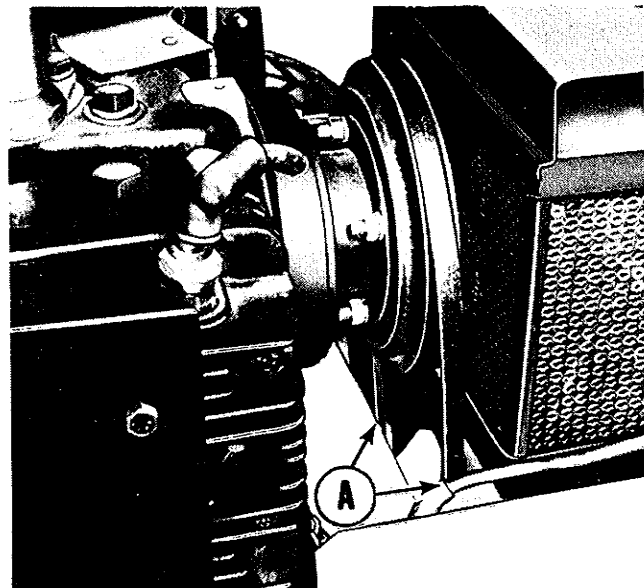

Figure 7. Tractor hood raised to show mower drive belt installed on power take off pulley.
8. See figures 7 and 8. Raise the tractor hood and feed the mower drive belt over the engine front power-take-off pulley and down around the idler pulleys located in the hitch assembly. Be sure the belt "V" is in the pulley grooves and twisted correctly as shown.
12. See figure 7. Check the belt at points (A) to insure it is at least 1/4" away from the tractor frame and battery. If it is not, adjust the idler pulley according to the instructions on page 6 of this manual under Belt Tension Adjustment.
5. See figure 7. Check the distance at (A). There should be at least 1/4" clearance between the belt and the tractor battery and frame. If there is not, proceed as follows:
- c. Move idler pulley (B) forward or rearward as required to center the belt between the tractor frame and battery (figure 7, item A). Moving idler pulley (B) forward will of course move the left side of the belt closer to the battery and farther from the frame, but will move the right side of the belt away from the battery and closer to the frame.